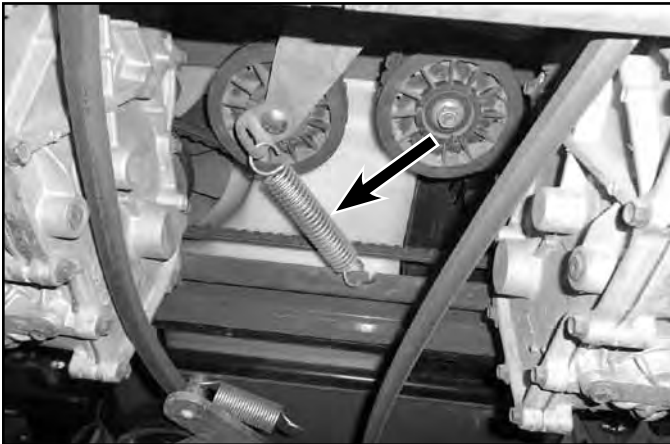

Fig. 090
7. Install and orient the drive belt tensioner spring as shown (Fig. 090).